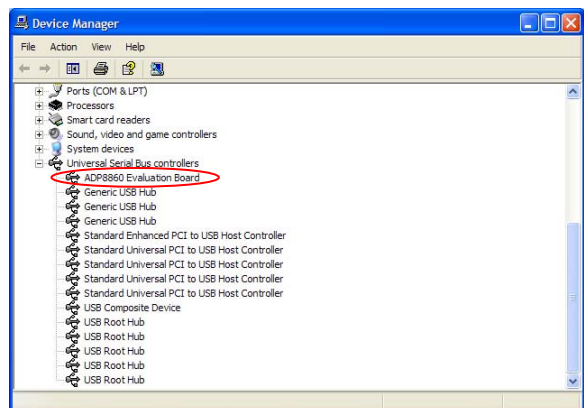

Figure 11. Check Driver Installation
5. To check that the USB driver is installed properly, press **Start**. Then select **Control Panel > System** and open the **Device Manager** (see Figure 11).